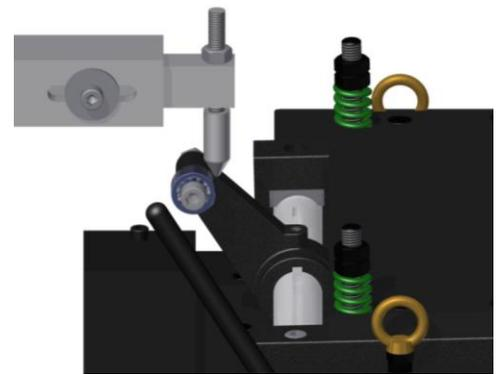

Figure 5
The **optional** Mechanical Roll Release Arm should be attached to the press ram by two screws M12 / 0.5 inch (not included in the shipping package). It must be mounted in such a way as to provide roll opening at the proper time and be adjustable for different die sets. Refer to Figure x for the dimensions of the Roll Release Arm. Make sure the tip of the threaded rod points at the front part of the release lever roller, as shown in the **Figure 5**.
9. Continue to jog the press slowly until the longest pilot just comes out of the material. Note the press positional readout and put this setting into your program for the ‘**Feed Cam On**’ setting. Set the ‘**Feed Cam Off**’ point so that there is enough time to complete the *Feeder* length and enough time to stop the press, if there is a feed fault. (See Figure 5.)
10. Set the ‘**Reset Cam On**’ for 180 degrees and ‘**Reset Cam Off**’ for 200 degrees. This setting should never need changing. (See Figure 5.)